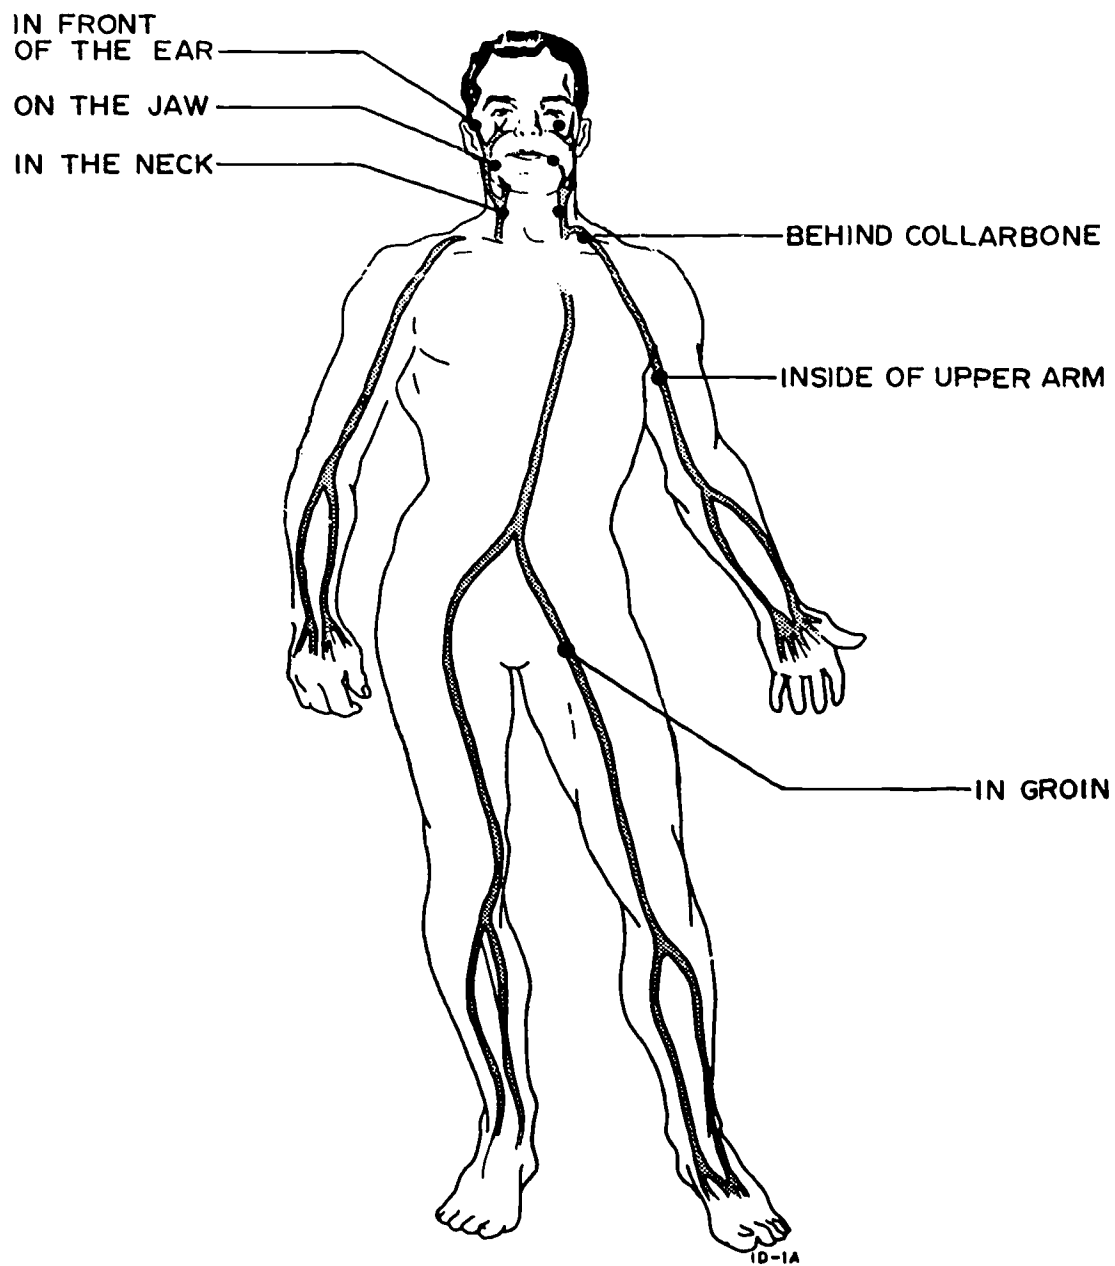

Figure 4-23. Body pressure points.
(1) Lay the victim down. If the victim does not lay down, faintness may occur at the sight of blood and further injury may occur.
(2) Expose the wound so that you can check the entire area affected by the cut.
(3) To stop the flow of blood you should apply pressure to the cut with a dressing or with some substitute such as an undershirt. Be sure to use a clean article if possible. Place the dressing against the cut and apply pressure. The pressure may be exerted by the use of the hand. Continue pressure as long as needed. If the cut is on the arms or legs, you may elevate the limb to help slow down the flow of blood. Do not raise the limb if you think the bone is broken. This could result in further injury. This procedure will usually control most severe bleeding of all types.
(4) If the above procedure does not work, you may be able to stop the flow of blood by applying hand or finger pressure at various points on the victim's body. The major pressure points are shown in figure 4-23. Each one of the dots in the figure is a major pressure point. The two most commonly used pressure points are the ones located in the groin and the inner side of the upper arm. Use the neck pressure point when the victim has a profusely bleeding scalp wound; however, use the neck pressure point only as a last resort—when all other methods of stopping the bleeding have failed. Do not apply pressure to both neck points at the same time. To do so would severely reduce the blood supply to the brain, causing unconsciousness and then death.
(5) If the bleeding has not been stopped by any of the steps so far listed, as a last step, use a tourniquet. A tourniquet could be defined as a wide band of cloth or some other similar material placed just above a wound to stop all flow of blood. Since the use of a tourniquet will stop all blood flow to the point of application, it should be used as a last resort only. Any time blood flow to a limb is stopped, you run the risk of losing that limb. As a last step, you may have to sacrifice a limb in order to save a life. Once a tourniquet is applied, you must insure that the victim receives care by a physician as soon as possible.